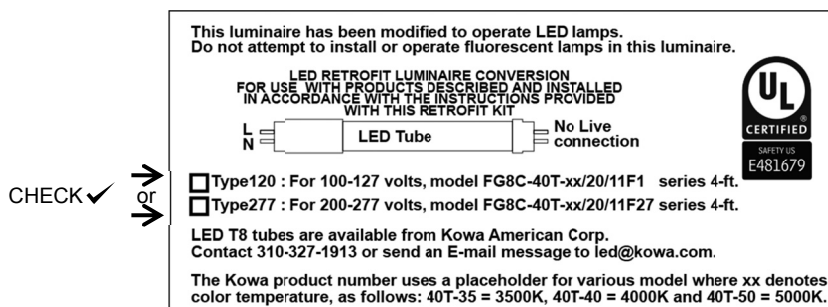

Figure 4
Step 8: Attach label (see Figure 4) on a visible location inside the fixture. Check the BOX in the label according to the Type of installed LED lamps.